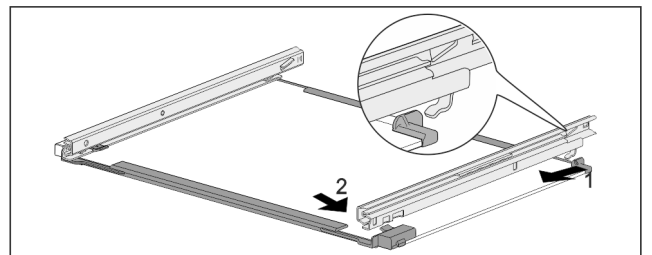

Fig. 108 Glass shelf with rails
- ▶ Hook in rail at the back. Fig. 108 (1)
- ▶ Hook in rail at the front. Fig. 108 (2)